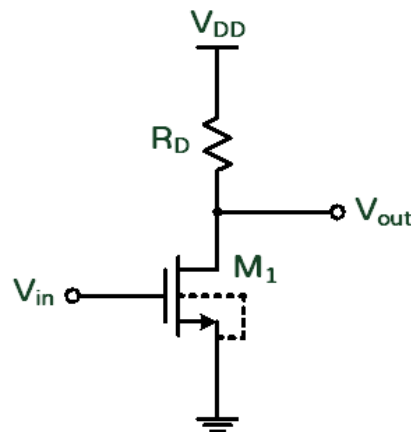

Fig. 1. A common source amplifier
1. Common Source (CS) (50%)
As shown in Fig. 1, we have a common source (CS) stage with $V_{DD}=1.8V$.